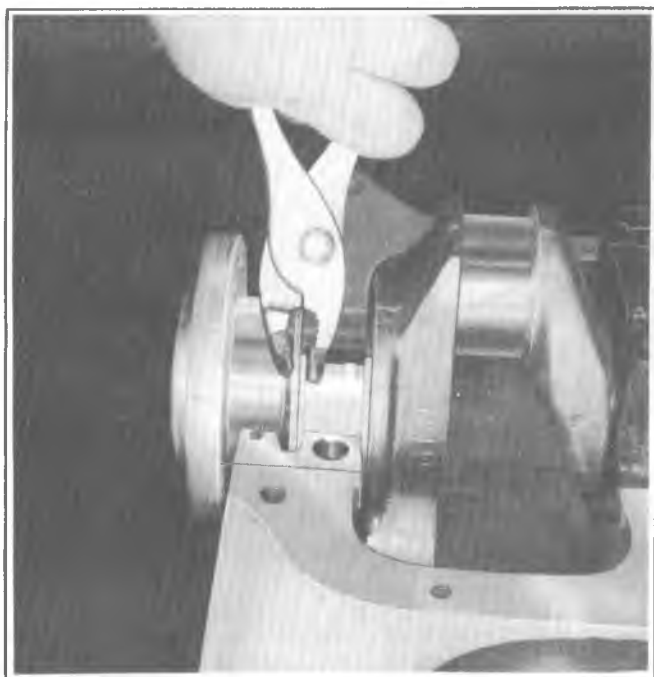

Fig. 6A1-33--Replacing Upper Main Bearing
9. Measure crankshaft end play (see specifications) by forcing the crankshaft to the extreme front position. Measure at the front end of the rear main bearing with a feeler gage (fig. 6A1-32).